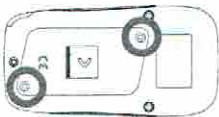

Figure 1
2. Open the battery compartment by unscrewing the two screws (Figure 1);